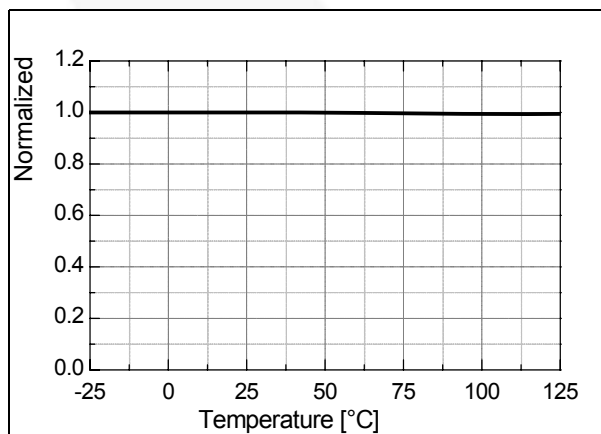

Figure 29. Sync High Threshold Voltage 2 (V_{SH2}) vs. T_A
4.1 Overload Protection (OLP): Overload is defined as the load current exceeding its normal level due to an unexpected abnormal event. In this situation, the protection circuit should trigger to protect the SMPS. However, even when the SMPS is in the normal operation, the overload protection circuit can be triggered during the load transition. To avoid this undesired operation, the overload protection circuit is designed to trigger only after a specified time to determine whether it is a transient situation or a true overload situation. Because of the pulse-by-pulse current limit capability, the maximum peak current through the SenseFET is limited, and therefore the maximum input power is restricted with a given input voltage. If the output consumes more than this maximum power, the output voltage (V_O) decreases below the set voltage. This reduces the current through the optocoupler LED, which also reduces the optocoupler transistor current, thus increasing the feedback voltage (V_{FB}). If V_{FB} exceeds 2.5V, D1 is blocked and the 5 μ A current source starts to charge CB slowly up to V_{CC} . In this condition, V_{FB} continues increasing until it reaches 6V, when the switching operation is terminated, as shown in Figure 29. The delay time for shutdown is the time required to charge C_{FB} from 2.5V to 6V with 5 μ A. A 20 ~ 50ms delay time is typical for most applications.